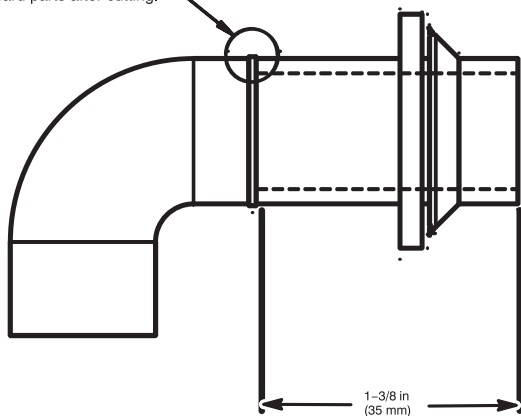

Fig. 16 - Modify Rubber Drain Elbow
- The Z-pipe is connected to the condensate trap and the outside of the furnace by modifying the formed rubber drain elbow as shown in Fig. 16.
- Remove the formed grommet from the rubber drain elbow by cutting the elbow along the vertical line located about 1-3/8 in. (35 mm) away from the formed grommet. See Fig. 16. **DO NOT DISCARD THE FORMED GROMMET OR THE RUBBER ELBOW.** Both of these pieces will be used.
TIP FROM CONTRACTORS: When installing the furnace horizontally, use the entire drain elbow (that is, do NOT cut as shown in Fig. 16 to connect the trap to the drain line. This helps to prevent bumps and shocks to the drain line from damaging the furnace drain trap. Avoid misalignment of the drain pipe which may cause kinks in the elbow.